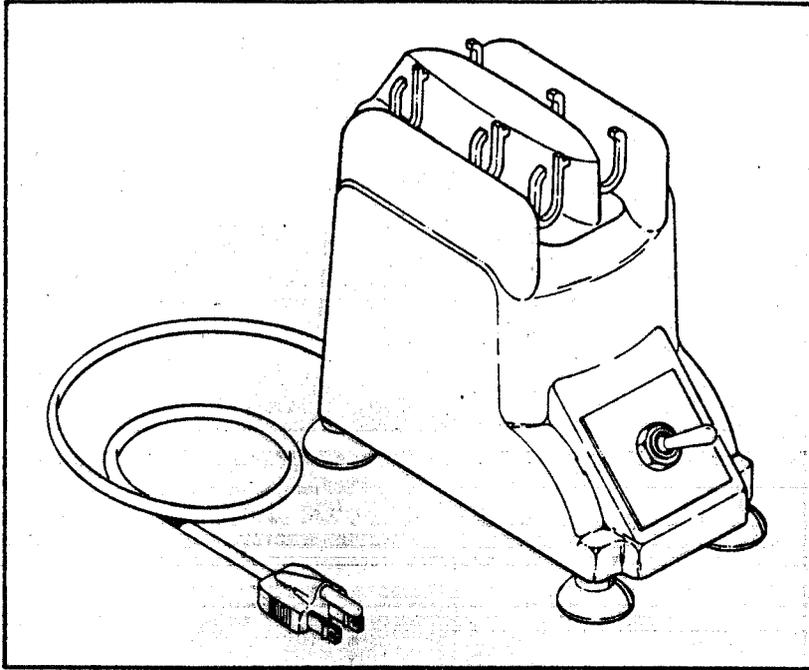

Figure 1. Pipette Shaker Assembly, Part No. 1006974
1. DESCRIPTION. (See figure 1.)